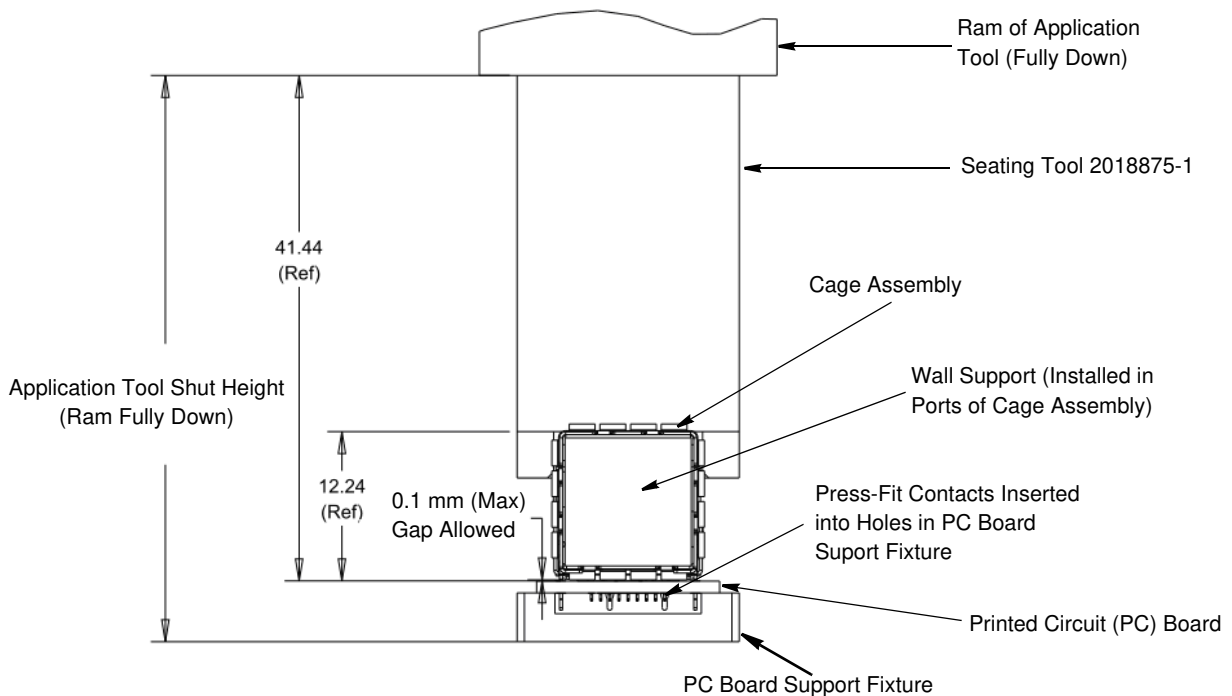

Figure 2
1. Set tool seating height to the dimension shown in Figure 2 (application tool shut height will equal the tool seating height PLUS the combined thicknesses of the pc board and support fixture). After seating, a gap of no more than 0.10 mm [.004 in.] between the
5. SEATING (see Figure 2)
- b. the connector and cage assembly is seated on the pc board with a seating height-measured from the top of the cage assembly (not including the) to the top of the pc board- given in Figure 2